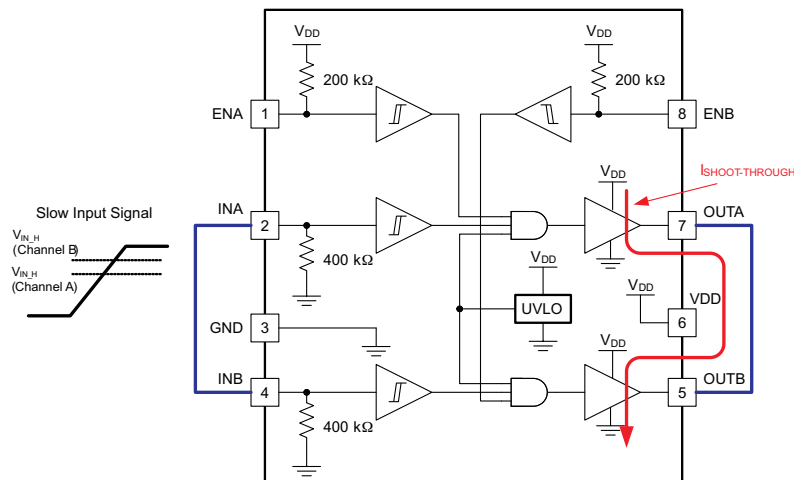

Figure 33. Slow Input Signal May Cause Shoot-Through Between Channels During Paralleling (Recommended dV/dt Is 20 V/ μ s Or Higher)
Caution must be exercised when directly connecting OUTA and OUTB pins together because there is the possibility that any delay between the two channels during turnon or turnoff may result in shoot-through current conduction as shown in Figure 33. While the two channels are inherently very well matched (4-ns Max propagation delay), note that there may be differences in the input threshold voltage level between the two channels which causes the delay between the two outputs especially when slow dV/dt input signals are employed. The following guidelines are recommended whenever the two driver channels are paralleled using direct connections between OUTA and OUTB along with INA and INB:
- Changed Slow Input Signal Figure 33. 21